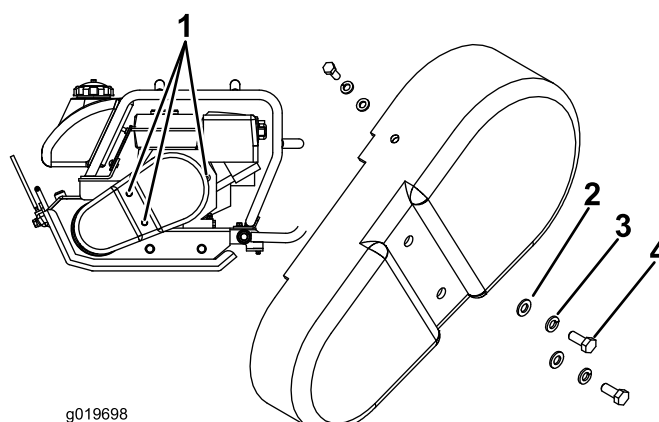
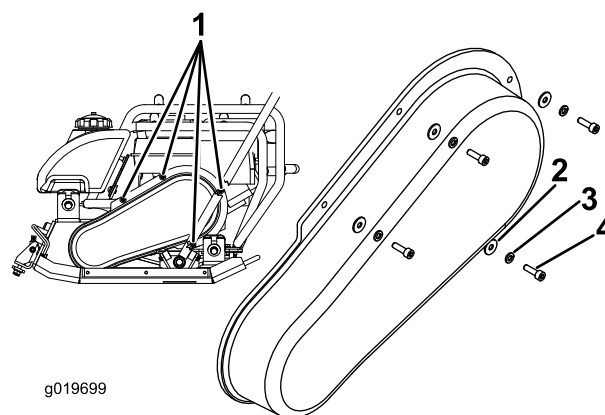

Figure 21
Figure 22
1. Remove the bolts holding the belt cover in place (Figure 21 or Figure 22).